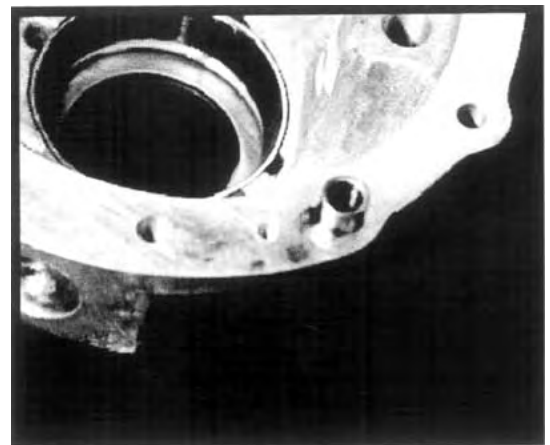

Figure 6.28
4. Tap the two hollow dowel pins into place in the front housing half. See Figure 6.28.